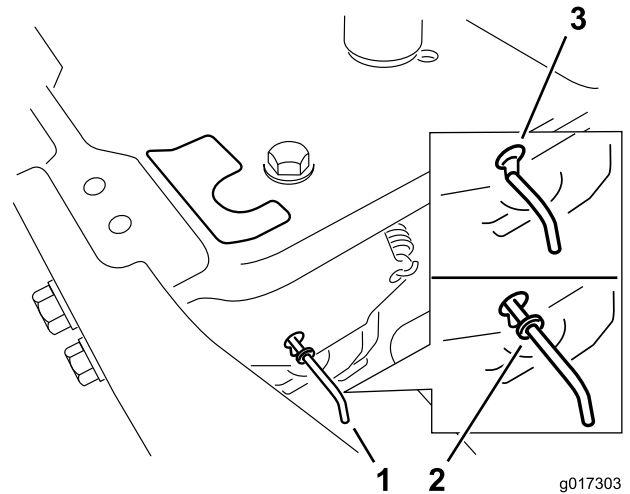

Figure 24
4. Move the bypass levers forward through the key hole and down to lock them in place as shown in Figure 24. Ensure this is done for each lever.
Move the bypass levers rearward through the key hole and down to lock them in place as shown in Figure 24. Ensure this is done for each lever.